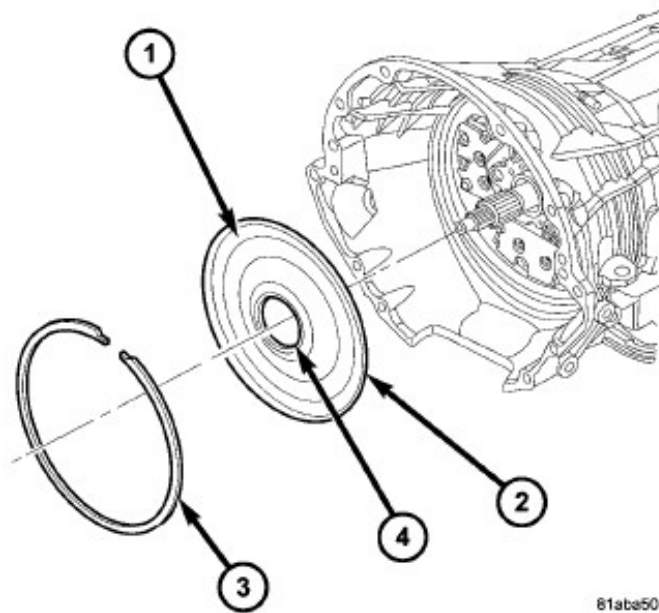

Fig. 7
13. Remove the outer snap-ring securing the transmission front cover into the transmission case Fig. 7.
14. Reaching through a case opening in the valve body area with a long blunted Tool, remove and **DISCARD** the transmission front cover from the transmission case Fig. 7.